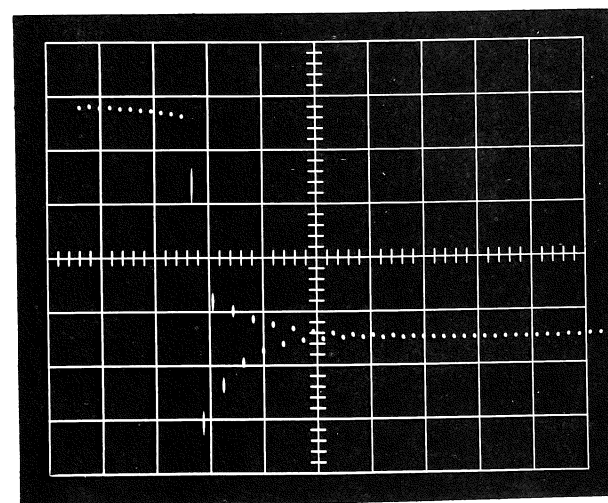

Fig. 5-8. Loop gain slightly greater than unity.
- b. Use Channel A first. Turn the SMOOTHING control slowly clockwise past midrange until the first few dots of the display begin to disperse as shown in Fig. 5-8.